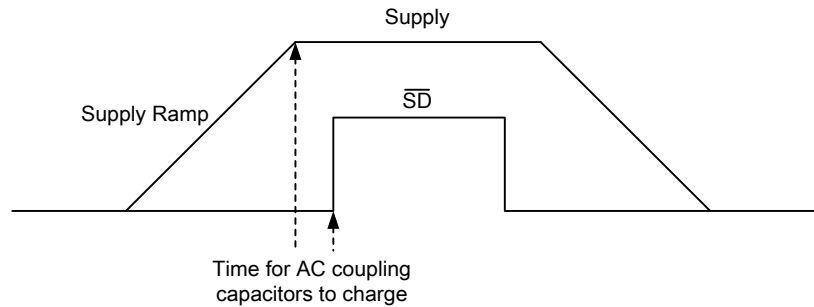

Figure 5. Power-Up Sequence
Pop-free power-up is ensured by keeping the $\overline{\text{SD}}$ (EN) (shutdown pin) low during power supply ramp up and down. The EN pin should be kept low until the input AC coupling capacitors are fully charged before asserting the EN pin high. This way proper precharge of the AC coupling is performed, and pop-free power-up is achieved. Figure 5 illustrates the preferred sequence.